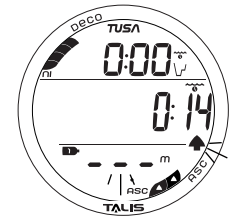

Fig. 68 - DV3 MAIN
**DV3 Main**, information includes (Fig. 68):